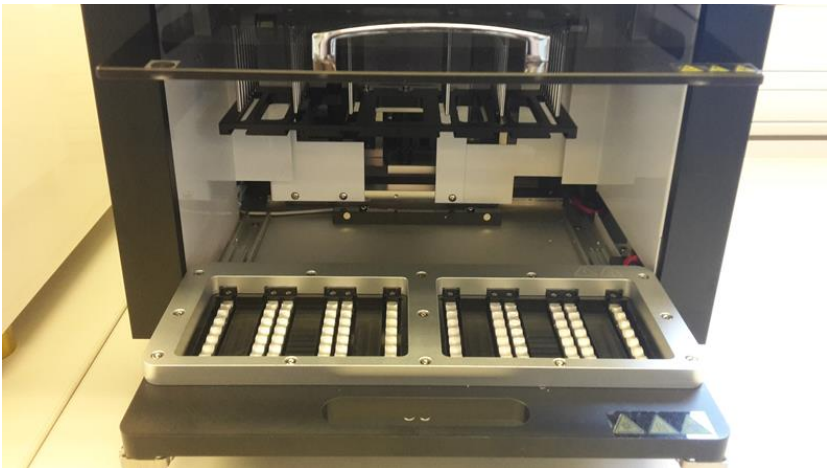

Figure 23. Plate loader locations example.
5. Select location of sample set in plate loader by tapping Left 1-3 or Right 1-3 option in the 'Barcode Menu' (See Figure 23 as an example).